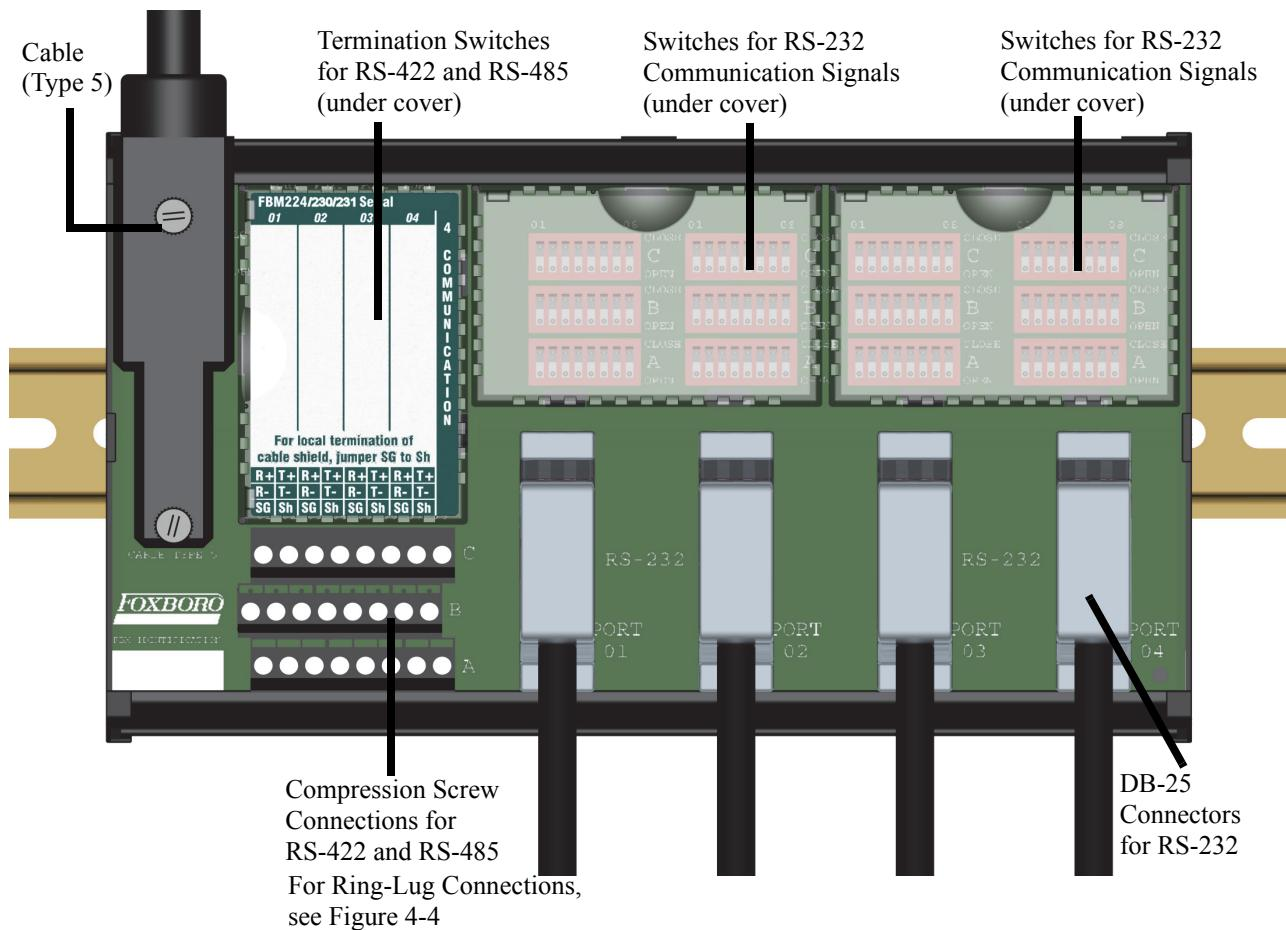

Figure 4-3. FBM230/231 Termination Assembly
The (TA) provides physical connection of the devices to the FBM230 ports (see Figure 4-3). TA, P0926GH, has compression screws and TA, P0926PA (moved to Available), has ring-lugs for making field wire connections to/from the field devices. The compression screw TA is supplied with 8-jumpers (X0175LT) for jumpering RS-422 and RS-485 signals between screw terminals. The TAs provide for: